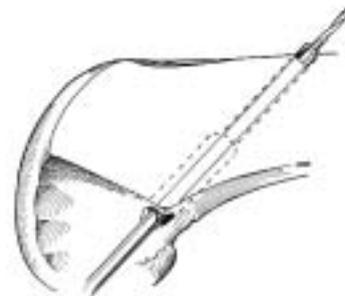

Figure 10: Drilling with the ENDOBUTTON Drill through the cortex
4. With the 2.7 mm passing pin still in place, use the 4.5 mm ENDOBUTTON Drill Bit to drill completely through the femoral cortex (Figure 10).